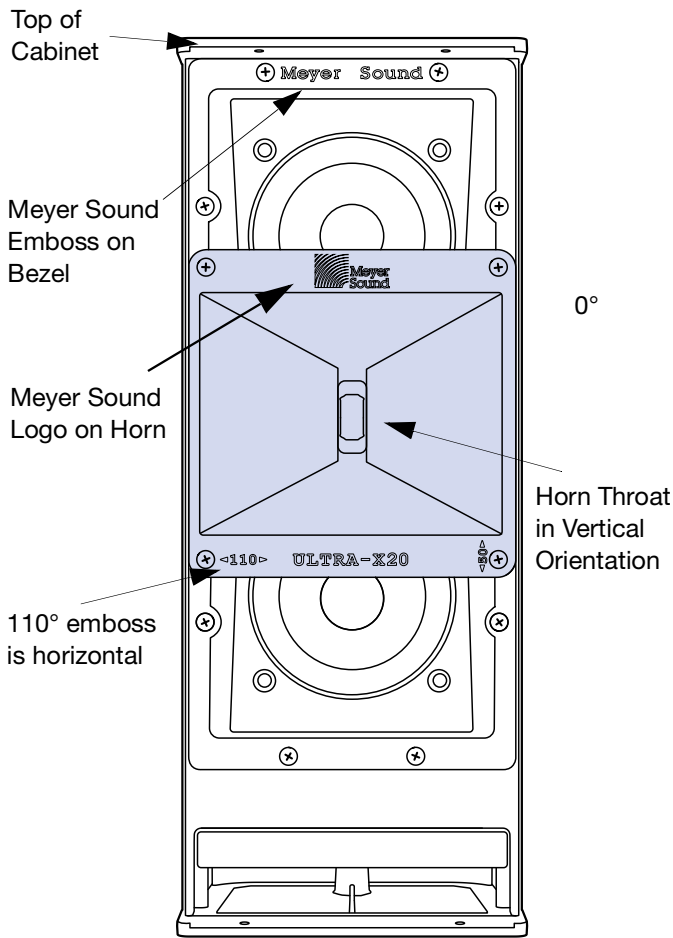

Figure 49: 110° horizontal by 50° vertical horn orientation
3. Determine the present orientation of the horn by checking the horn throat orientation when the speaker is vertical with the port at the bottom. The cabinet is vertical and the horn is in the 110° horizontal by 50° vertical orientation when the Meyer Sound Logo on the horn and on the bezel are at the top, the horn throat is in the vertical orientation, and the 110° emboss is also horizontal (Figure 49).
5. To rotate the horn from 50° x 110° to 110° x 50°, pull the horn out, rotate it **-90°**, so that the horn throat is oriented vertically, the Meyer Sound Logo on the horn is on the top, and the 110° emboss is also horizontal (Figure 49).